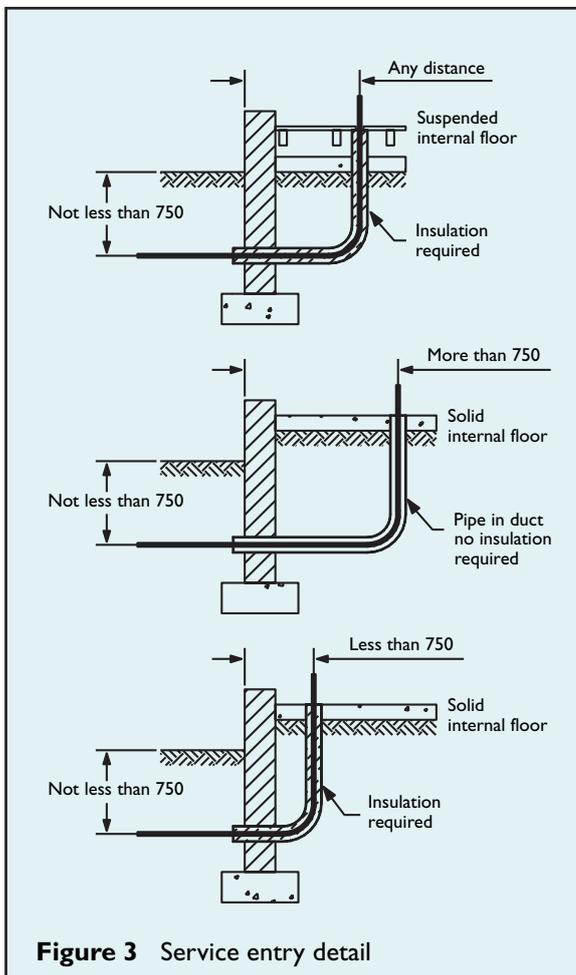

Figure 3 Service entry detail
- Positions where the service entry point is closer than 750mm to external walls, see Figure 3.